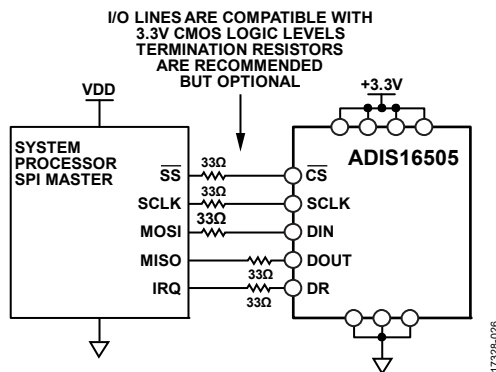

Figure 34. Electrical Connection Diagram
The SPI provides access to the user registers (see Table 9). Figure 34 shows the most common connections between the ADIS16505 and a SPI master device, which is often an embedded processor that has a SPI-compatible interface. In this example, the SPI master uses an interrupt service routine to collect data every time the data ready (DR) signal pulses.
Figure 34 shows the typical SPI connection. The 33 Ω series resistors shown in Figure 34 are recommended but not required. Additional information on the SPI can be found in the Applications Information section.